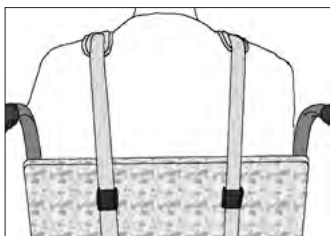

Figure 6
1. Identify mounting location for all four cam buckles on the backrest. Drill holes or locate T-nut positions and fasten the cam buckles with appropriate screws or bolts (not included). See Fig 6 & 7.